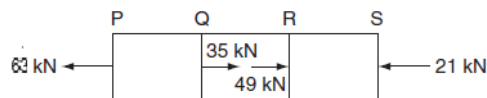

Figure 22 Question 38.
38. A bar having a cross-sectional area of 700 mm² is subjected to axial loads at the position indicated in Figure 22. The value of stress in the segment QR is